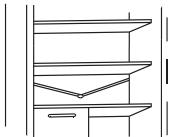

Fig.12
* Keep the drainage pipe (fig.12) clean in the refrigerator compartment to keep it free of water.